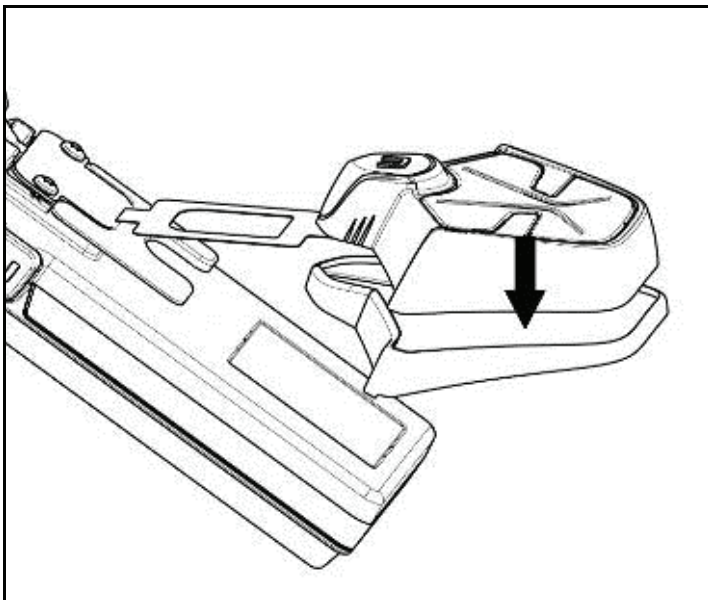

Fig. 5
- Rotate the adapter until it is in a horizontal position like the ESS system, then press the two components together until they stick one onto the other (Fig. 5);